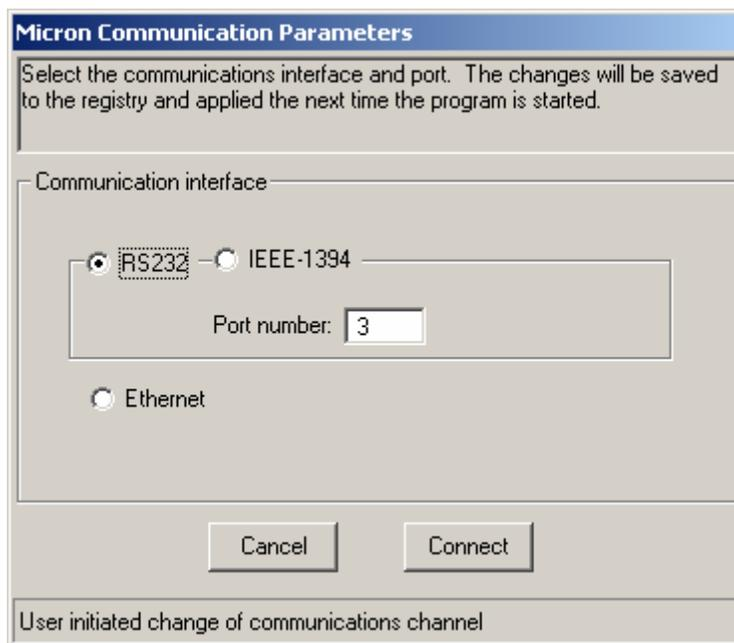

Figure 10: Control Panel Select RS232 Comm Window
6. If you see the window shown in Figure 10, verify that the camera is powered on and connected to the PC. Then select the RS232 option and appropriate COM port then hit the “Apply” button. If the Control Panel successfully links to the camera, skip ahead the section below titled “Operation of the Micron/A10 Control Panel”.
14. If you see the window shown in Figure 10, verify that the Firewire Module LED is powered on and connected to the PC. Then select the IEEE-1394 Comm interface option and appropriate COM port then hit the “Apply” button. If the Control Panel successfully links to the camera, skip ahead the section below titled “Operation of the Micron/A10 Control Panel”.